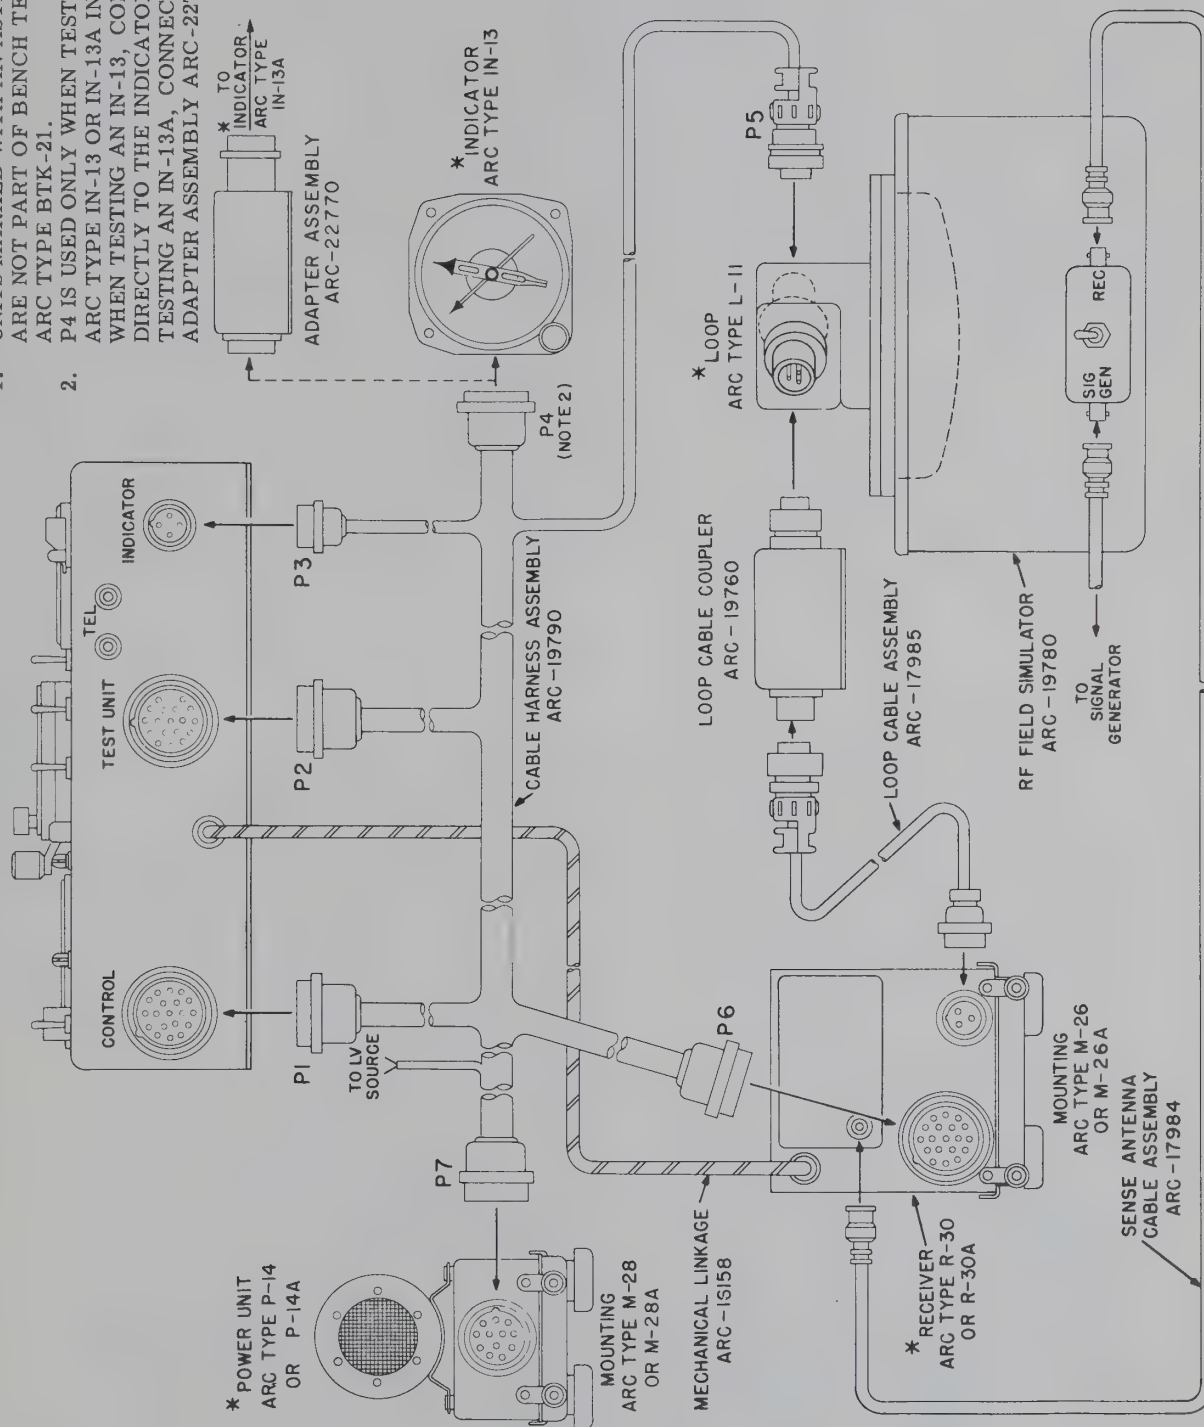

Figure 2-2. Bench Test Intercabling Diagram Using Cable Harness Assembly ARC-19790
Intercabling diagrams for the BTK-21 and associated components are shown in Figures 2-1 and 2-2. When using Cable Harness Assembly ARC-19790, use Figure 2-2 and omit Step 5 of the following procedure. When using Cable Harness Assembly ARC-23042, use Figure 2-1 and omit Step 4 of the following procedure. Prepare the test set-up as follows:
Step 5. Connect the cable harness assembly (see Figure 2-2). All connectors are plainly marked for identification. The low-voltage leads have polarity identification tags attached.